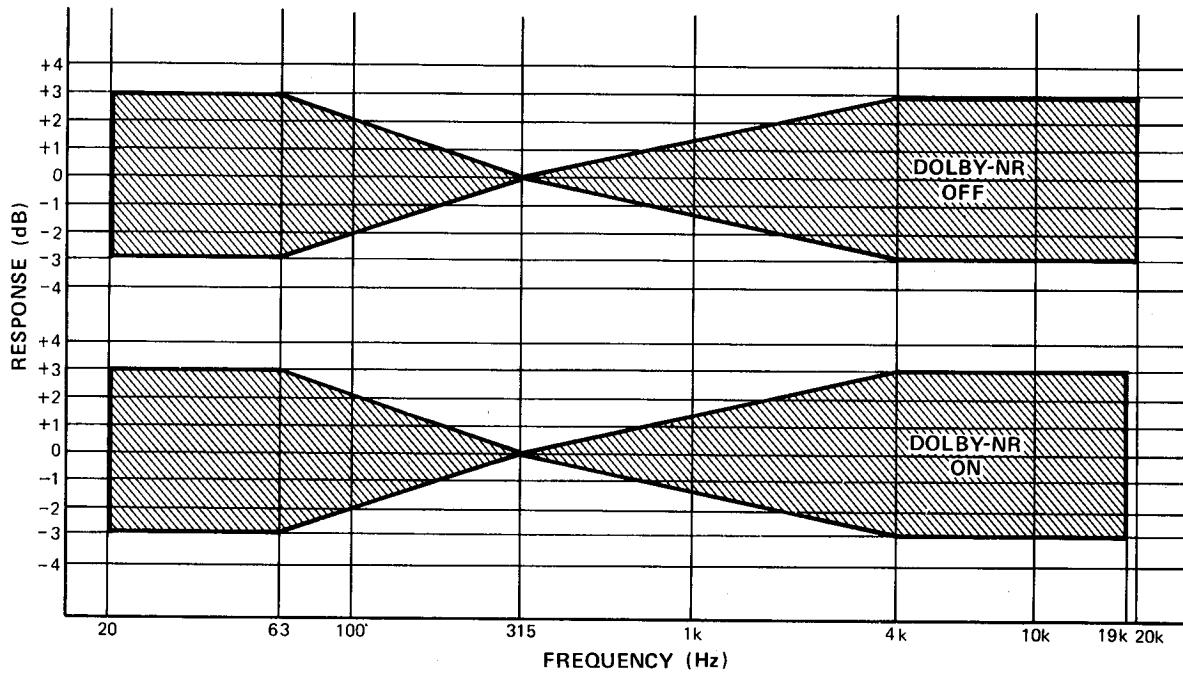

Fig. 3 — Metal
6. Play back the metal tape recorded above, note the frequency response obtained on the V.T.V.M. 2 and compare to Fig. 3.
7. If the above frequency response is not within the shaded DOLBY-NR OFF area on Fig. 3, adjust VR309 (left), VR310 (right), L301 (left peaking) and L302 (right peaking) slightly. Repeat steps 5 and 6 until playback frequency response on the V.T.V.M. 2 is adjusted within the DOLBY-NR OFF range as shown in Fig. 3.
8. Set Dolby NR switch to ON position and check if frequency response is within range of DOLBY-NR ON section of Fig. 3, if not repeat DOLBY-NR OFF procedures.